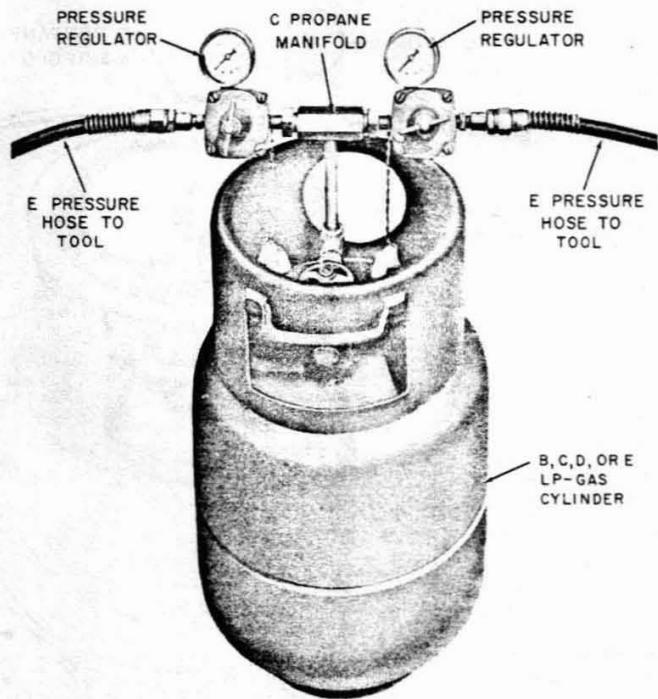

Fig. 9—Two Tools Being Supplied From One Cylinder
6.07 If more than one tool is being supplied from a cylinder as shown in Fig. 9, and the cylinder loses its capacity to supply fuel to the tools as outlined in 6.06, use a separate cylinder to supply fuel to each tool.